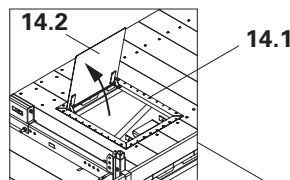

Fig. A2.04a
- Place hinged hatch 55 x 60 (14.1) in the cut-out. The cover (14.2) opens towards the wall side. (Fig. A2.04a)